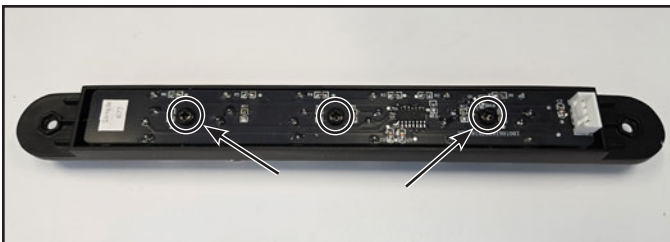

Figure 10 Touch Button Board Screws
4. Remove the screws holding the touch button board to the plastic housing. See Figure 10.
6. Attach the new touch button board to the plastic housing with the previously removed screws. See Figure 10.